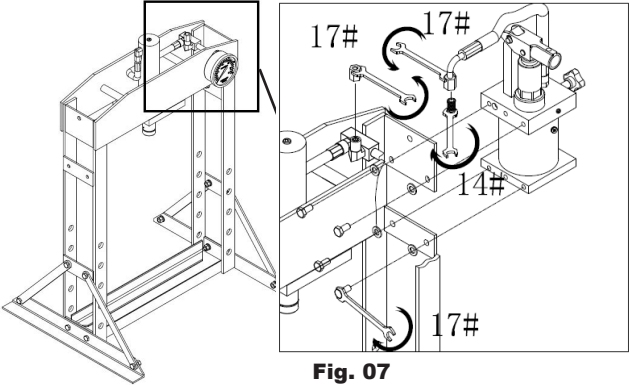
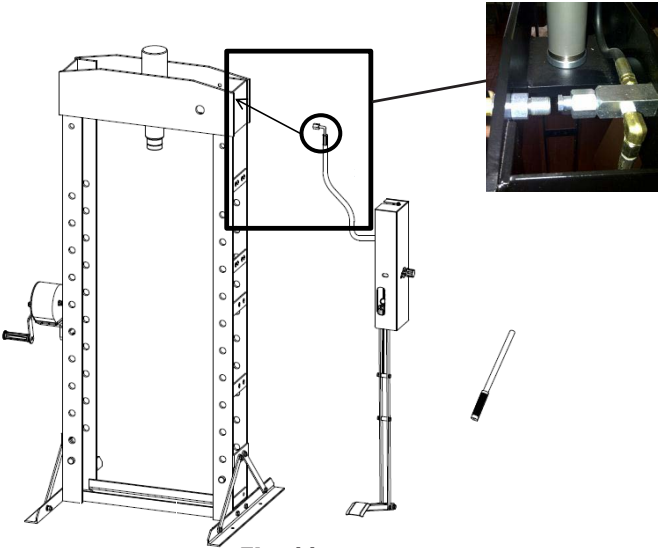

Fig. 07
Fig. 11
- Assemble pump to the frame and hose kit to the pump Fig. 07 (WP15), Fig. 09 (WP20S), Fig. 11 (WP30P & WP50P).